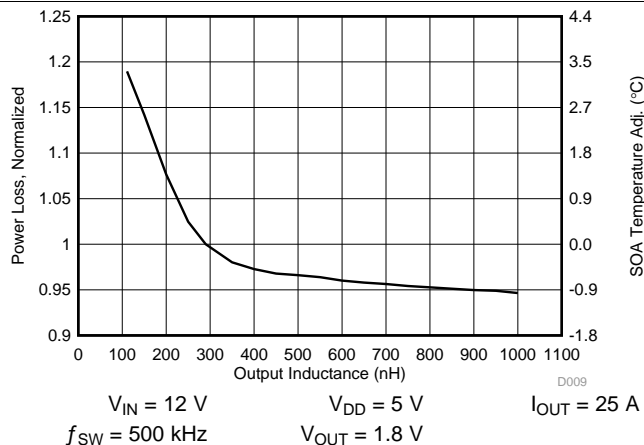

Figure 11. Normalized Power Loss vs Output Inductance
- Normalized Power Loss for output inductor ≈ 1.08 (Figure 11)
- SOA adjustment for output inductor $\approx 1.4^{\circ}\text{C}$ (Figure 11)